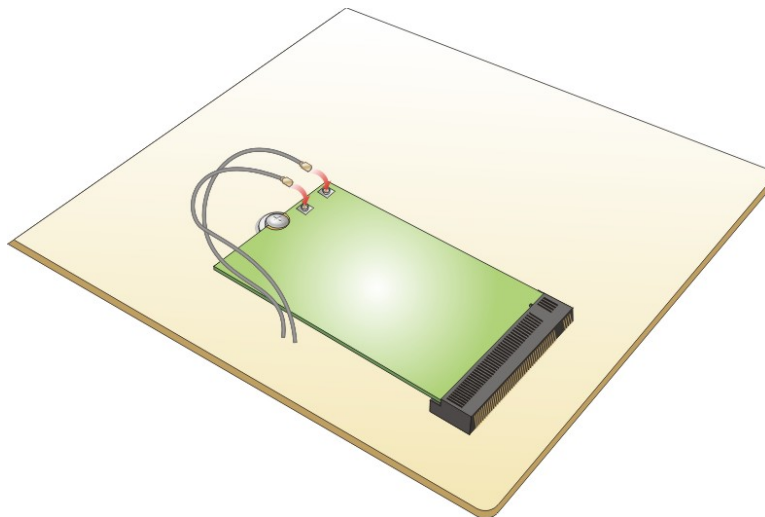

Figure 3-8: Connecting RF Cables
- Step 6:** Secure the WLAN module with the retention screw previously removed (Figure 3-8).
Step 7: Connect the two RF cables to the antenna connectors on the WLAN module (Figure 3-8).